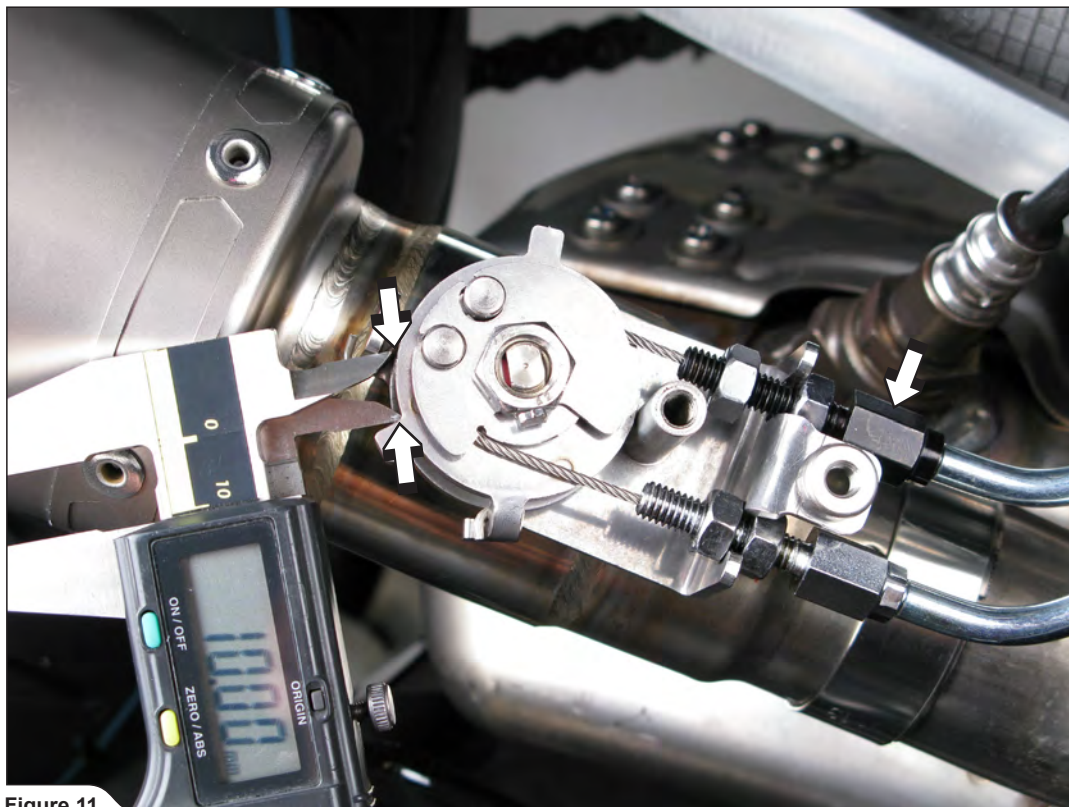

Figure 11
3. Adjust the upper adjuster (black), until the distance between exhaust valve wheel stoppers is 10mm (Figure 11).